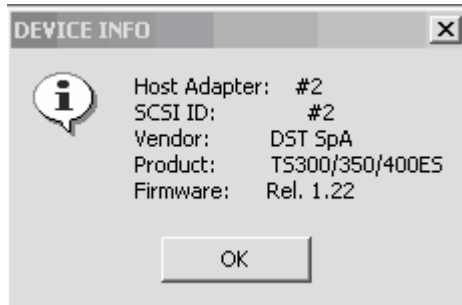
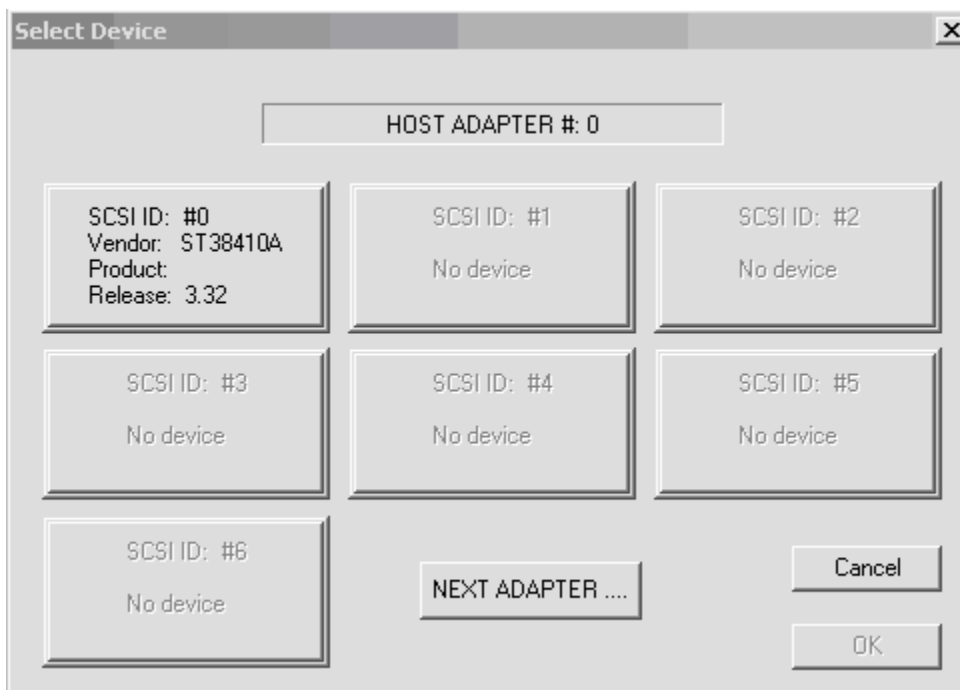

Figure 2
Figure 3
7. If it still does not work, get a copy of the Maintenance Program by contacting Digital Check or ICT. Load it into it's own directory and launch the Ts4demo.exe file. The screen that comes up should look like Figure 2 or
figure 3 and list the correct SCSI adapter that the scanner is connected to.
8. If you get a screen like Figure 2 or like the screen in Figure 3 that is not showing the correct SCSI adapter, this indicates that the programs are going after the wrong SCSI adapter. This could be caused because their parameter files (Buiscan.ini or Ts4interface.ini) were modified pointing to the wrong adapter or the PC cannot find the correct adapter due to a hardware problem.